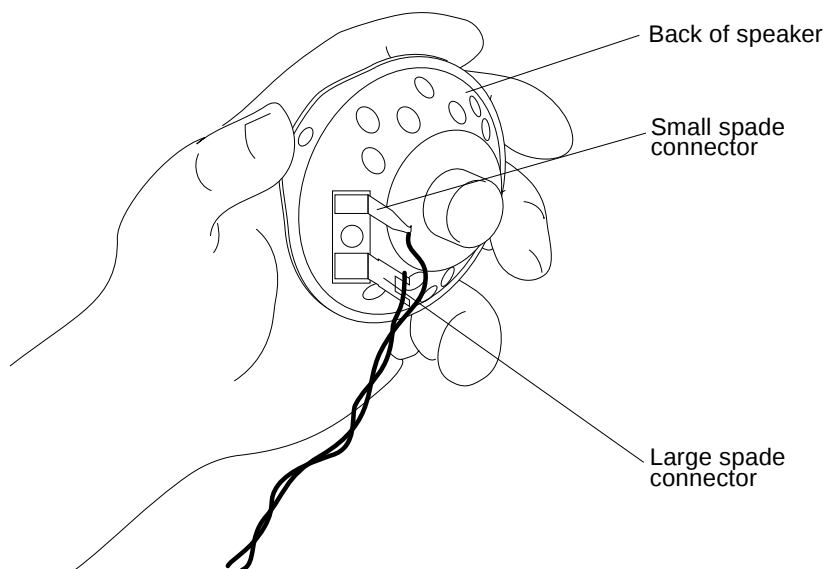

FIGURE 8-9 Speaker Connectors
6. Grasping the speaker in one hand, disconnect the spade connectors from the speaker terminals on the back of the speaker (FIGURE 8-9).
1. **Slide the spade connectors onto the speaker terminals (FIGURE 8-9).**